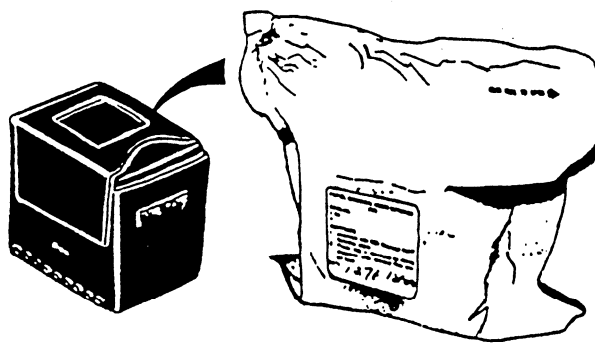

Figure 9-1.—M9 chemical agent detector paper.
**M9 CHEMICAL AGENT DETECTOR PAPER.**— The M9 chemical agent detector paper (fig. 9-1) detects the presence of liquid chemical agents encountered by the individual. It does NOT detect chemical agent vapors. The paper indicates the presence of a nerve agent (G and V) or a blister agent (H and L) by turning a red or reddish color.